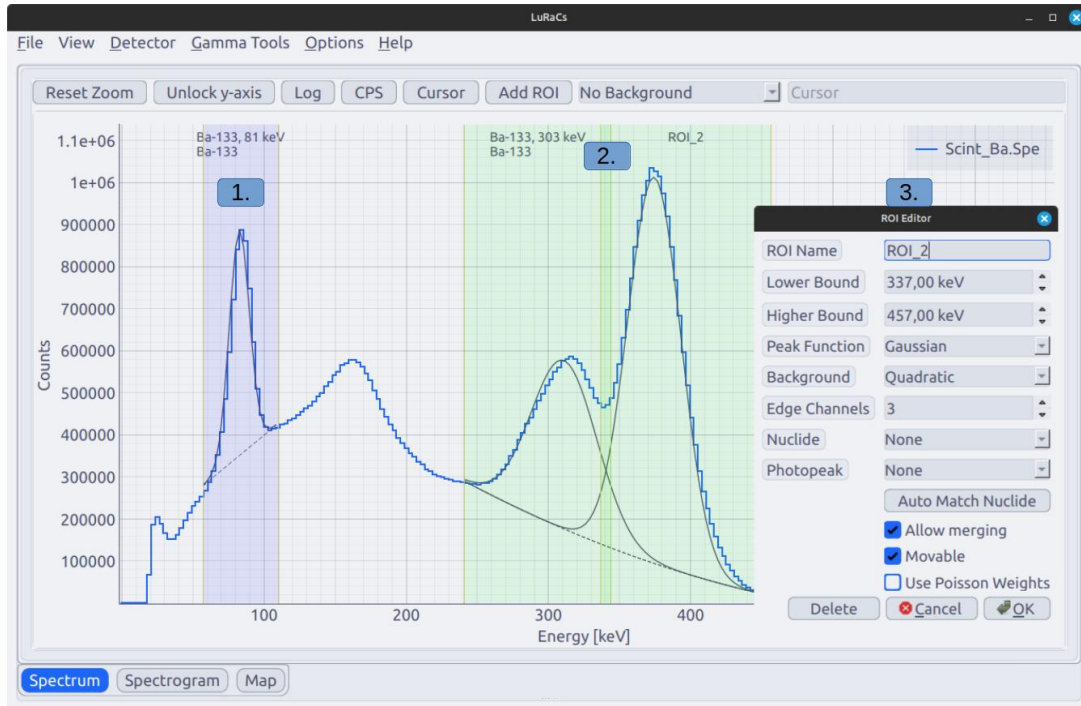

Figure 2.2: A Ba-133 spectrum with three ROIs, two are merged and fitted to the same background. The ROI editor is open for the right most ROI.
6. **Add ROI** adds a customisable *region of interest* to the spectrum, see Figure 2.2.